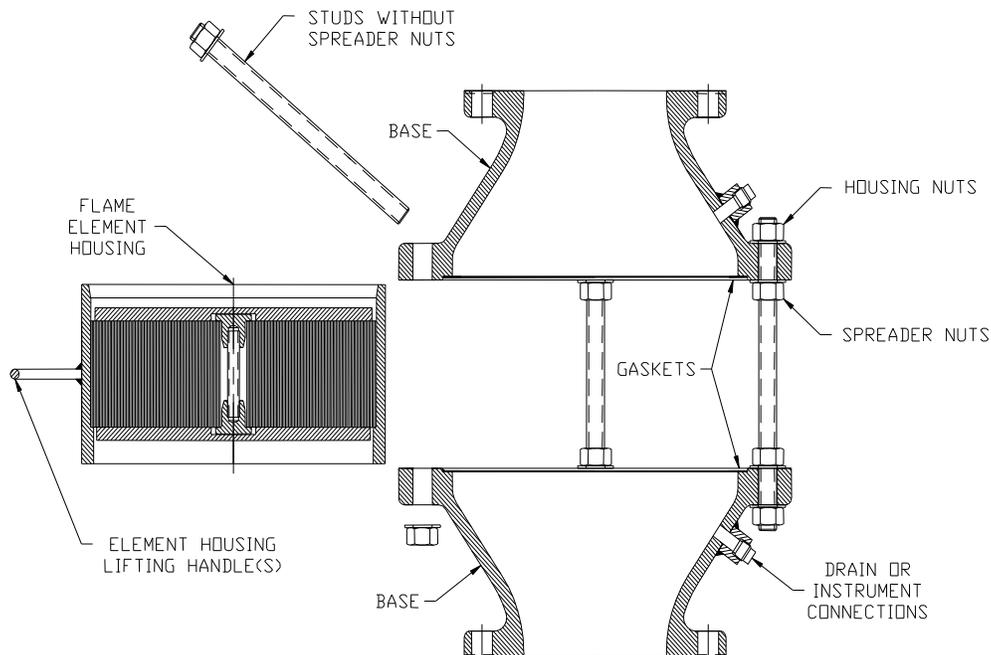

FIGURE 1 - TYPICAL MODEL 7618 FLAME ARRESTER
2. Refer to Fig. 1 which illustrates a typical flame arrester with the element removed.